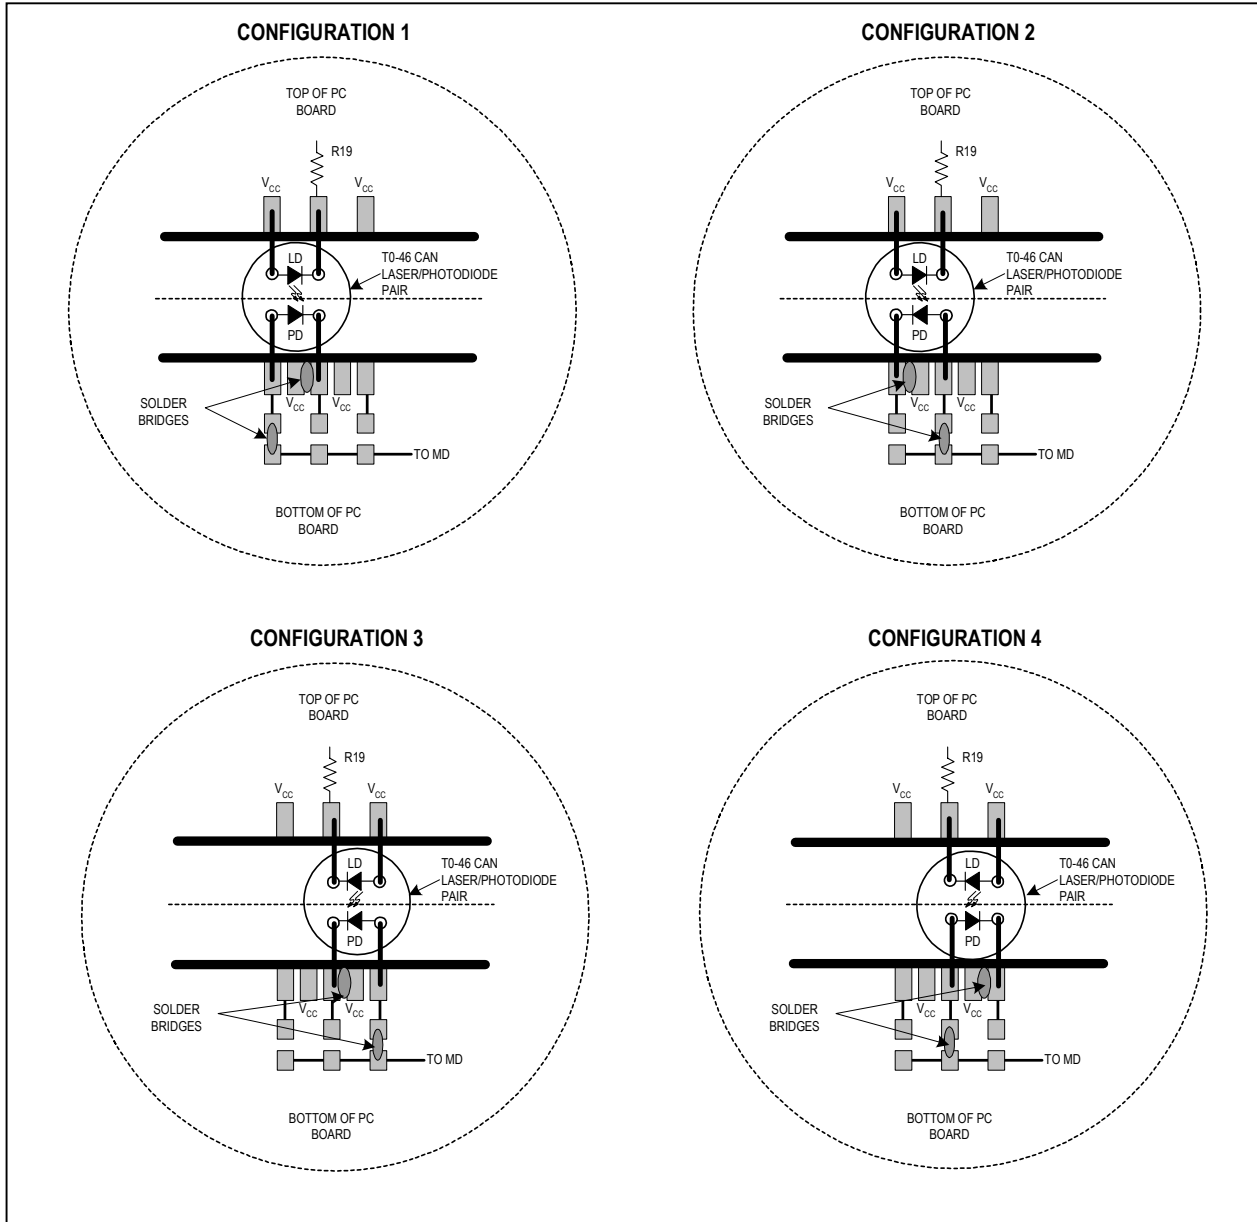

Figure 1. Attachment of Laser Diode/Monitor Diode to the MAX3735A EV Kit
- 6) The EV kit is designed to allow connection of a variety of possible laser/monitor diode pin configurations. Connect a TO-header style laser with monitor diode (Figure 1) as follows:
- Connect the monitor photodiode to two of the five pads on the bottom (solder) side of the PC board, directly below the laser diode pads. Connect the anode and cathode of the photodiode as shown in figure 1.